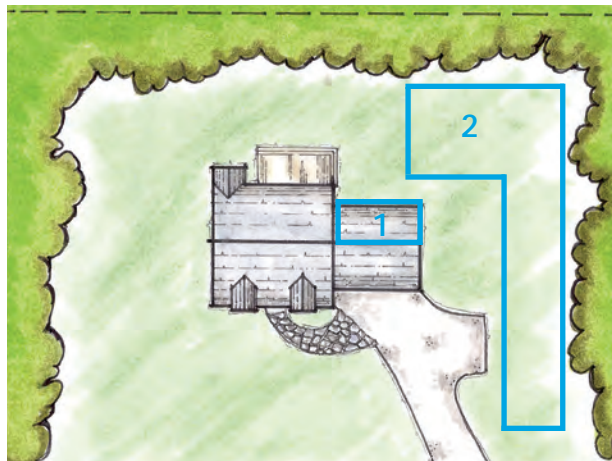

Figure 5. Draw the boundary lines (drainage areas) for stormwater endpoints.
2. Draw a boundary line on your project map around the area that drains to each stormwater endpoint. The boundary line represents the “drainage area” or watershed for each stormwater endpoint. For example, if all of the runoff from the back of your garage roof drains to a single gutter downspout, the roof is the drainage area to the stormwater endpoint at the downspout. And if the right side of your yard all drains toward the road, that is a separate drainage area. You can identify these drainage areas on your property map by drawing a line around their perimeters (Figure 5).